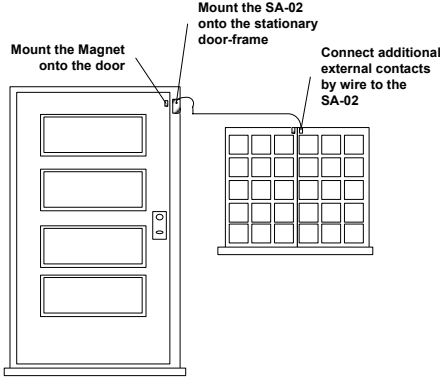

FIG 2: Selecting a Location
- 1) Select a DOOR OR WINDOW within a room or hallway that best matches the criteria in section 5. (Fig 2):